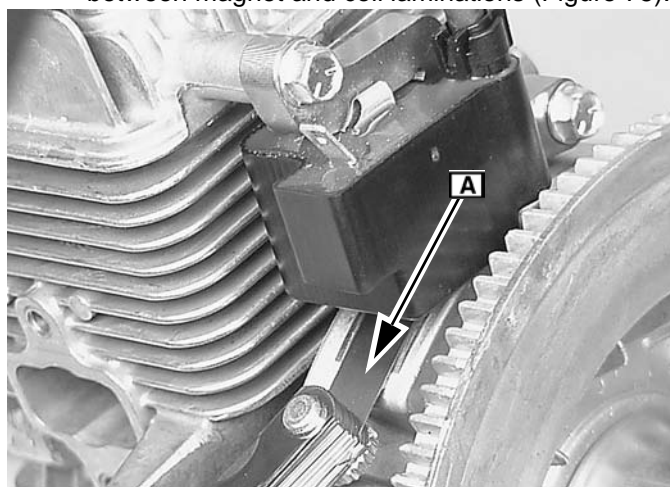

Fig. 75
7. Place thickness gauge **A** .010" (0.25mm) between magnet and coil laminations (Figure 75).